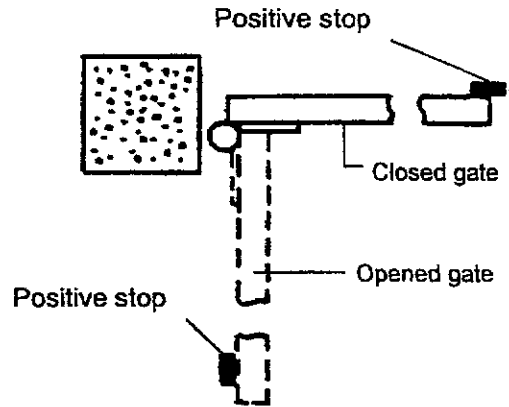

Figure 3. Limit stops
4. Provide limit stops for the gate leaves in the fully opened and fully closed positions (see Figure 3).